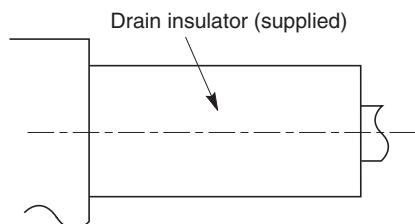

Fig. 1-18
(2) After checking the drainage, wrap the supplied packing and drain pipe insulator around the pipe. (Fig. 1-18)